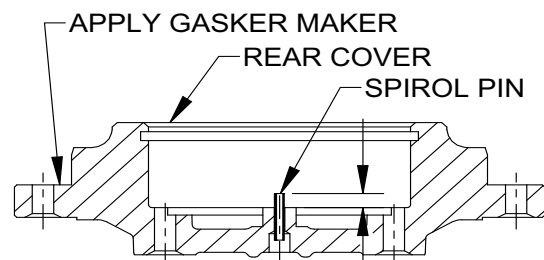

FIGURE 5 .188
8. Check and set end of spirol pin (#20) to be 3/16" from inside of rear cover (#4). See Figure 5.
11. Apply gasket maker around holes and to flange face of rear cover. (See figure 5)